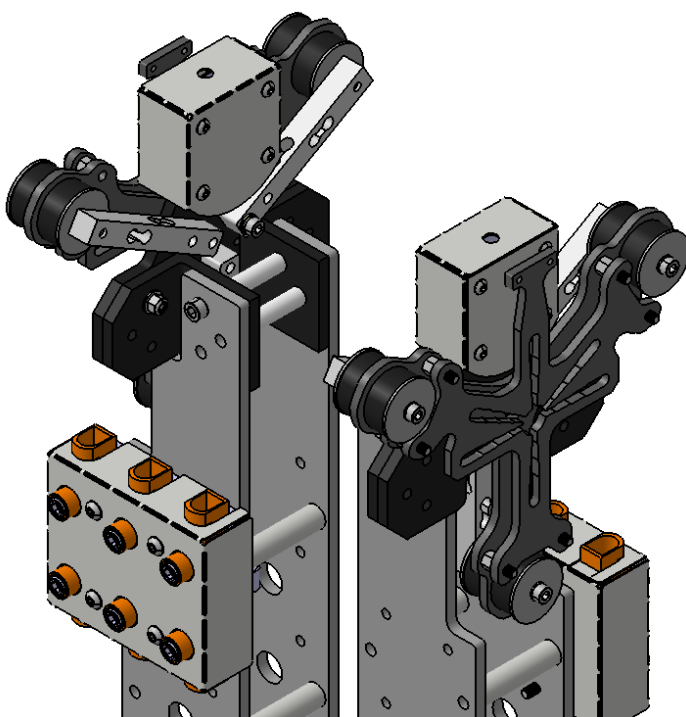

Fig. 4.40: Coaxial back-to-back without the special mount. Above 170 mm range, or 250 mm with the railing system
- ❑ Slide the special mount all the way in as shown in Fig. 4.40 until the edges in contact and the six holes on the special mount aligning with the lower plate of the load measurement unit.